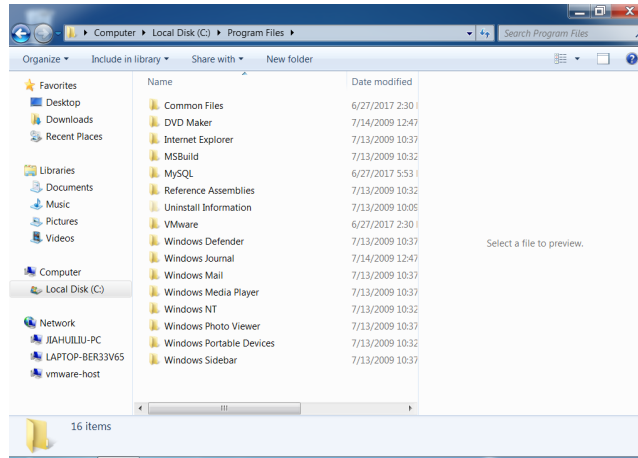

Figure B5
- When the uninstall finishes, locate and delete the MySQL folder. The default path for the MySQL folder is "c:\Program Files". (Figure B5)